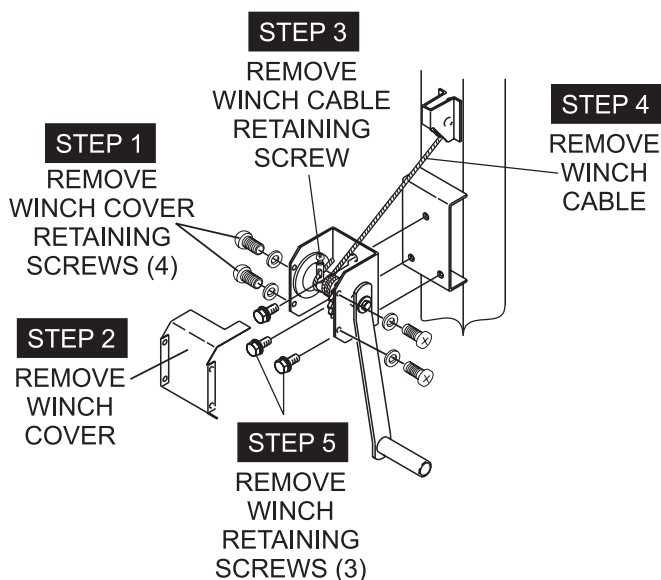

Figure 31. Winch/Cable Removal
2. Remove the four retaining screws and washers (Figure 31) that secure the winch cover. Remove the winch cover.
1. Reinstall the three retaining screws (Figure 31) and washers that secure the winch to the mast. Tighten screws between 24~ 33 ft-lbs. (33 ~ 45 N-m).
2. Install the four retaining screws and washers (Figure 31) that secure the winch cover. Tighten securely.